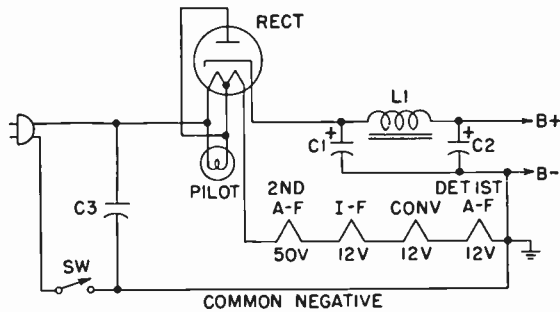

Fig. 5-9. A typical a-c/d-c power supply
Figure 5-9 shows a typical a-c/d-c power supply. The most likely defect in the power supply is a defective output filter condenser C-2. In review, the other possible defects may be listed as follows:
If the cause of hum is not disclosed by a defective tube or by a defect in the power supply, then you must proceed with a systematic stage-isolation technique in the a-f section. A signal-chain-interruption technique is used once again. But it cannot be done in the same manner as with the a-c receiver where the a-f tubes were removed, one at a time. In the a-c/d-c receiver, tube heaters are in series (see Fig. 5-9), and removal of one would cut off the heater supply from all. Therefore, the signal chain must be interrupted with the tubes in their sockets and with receiver power turned on. This may be done by shorting out the signal at various test points through a 1- or 2-mfd/600-volt condenser.
In the typical heater string of Fig. 5-9, the left side of the detector-first a-f tube heater is 12 volts above B-minus, or ground; the left side of the converter tube heater is 24 volts above ground; the left side of the i-f tube heater is 36 volts above ground; and the left side of the second a-f tube heater is 86 volts above ground. Obviously the second a-f will receive the largest magnitude of hum voltage resulting from cathode-heater leakage,
- Open line filter condenser (C-3 in Fig. 5-9).